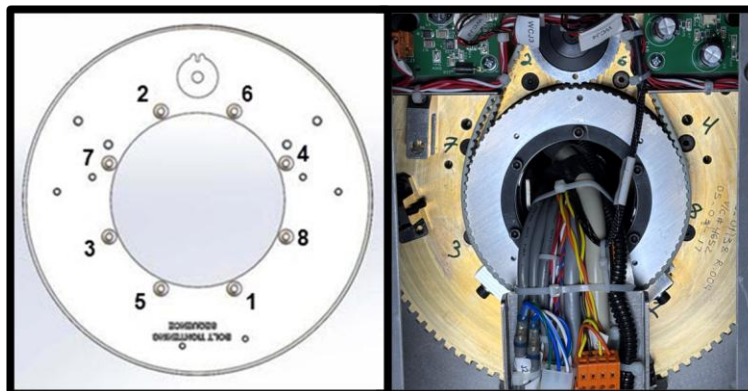

Figure 4 – Example of final numbering of hardware on bronze worm gear face
- b) 6 of the 8 screws are readily accessible (screws 1, 3-6, & 8 as numbered in Figure 4). Screw 2 and 7 are blocked by the tensioner assembly and will be evaluated last.
- a) If the screw **DID NOT** rotate, the screw passes. Repeat step 7 (for flat head screws) or step 10 (for socket head screws) for the remaining readily accessible screws (1 & 3-8 per Figure 4). Once all readily accessible screws have been inspected, proceed to section 1.3 – Final Screw Inspection on page 9.